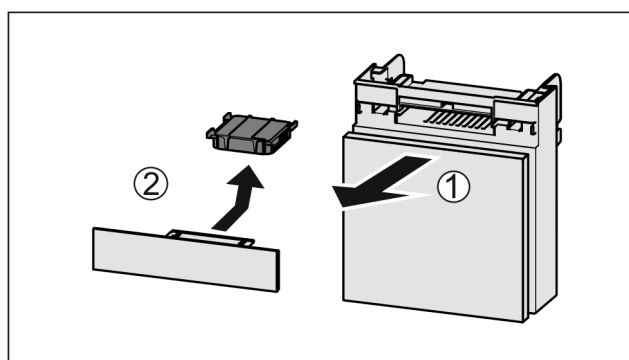

Fig. 99
- ▶ Pull out the compartment Fig. 99 (1).
- ▶ Remove the carbon filter Fig. 99 (2).